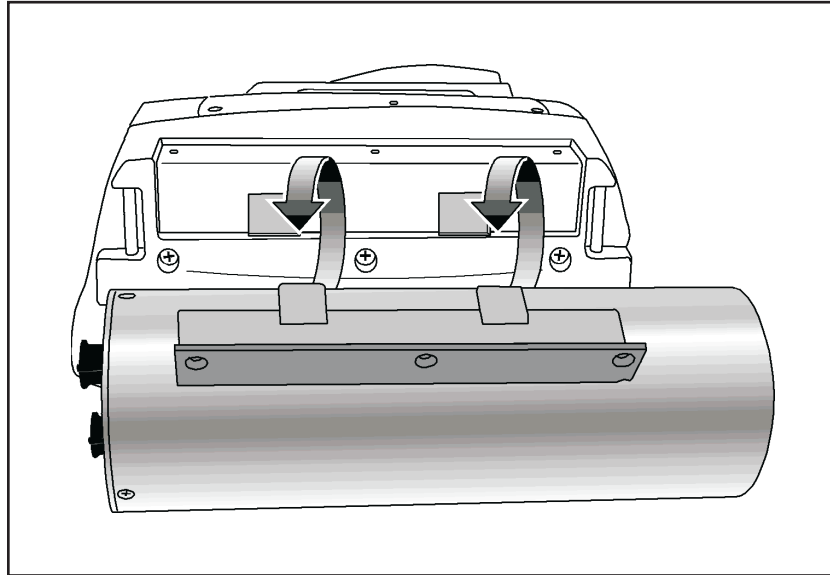

Figure 116 Disengaging the Probe
4. Remove the Neutron Probe from the InSpector by rotating it away from the InSpector and disengaging the lugs (Figure 116).